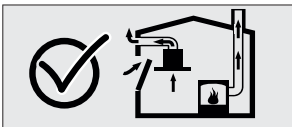

Fig. 3
- Therefore, adequate fresh air ingress must always be ensured. (Fig. 3)